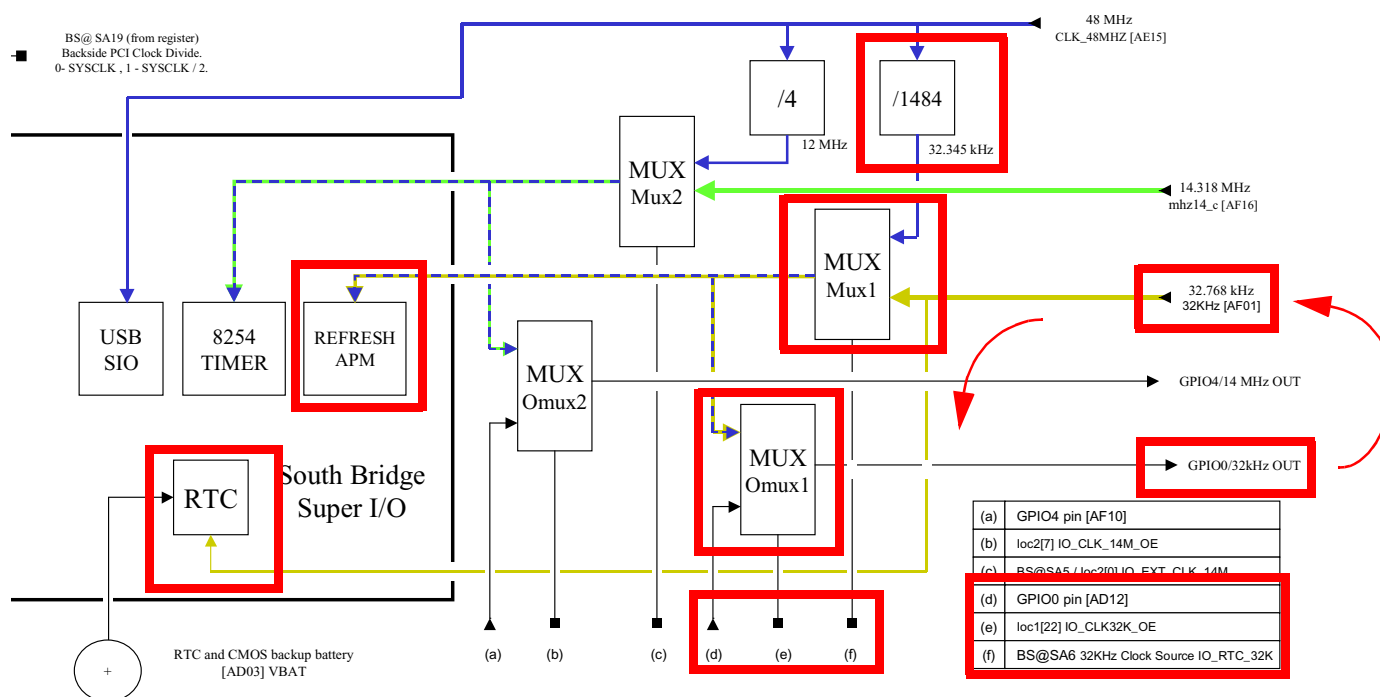

Figure 5-11 32KHZC\_C [AF01] Clocking Control Circuitry
c. Drive the 32KHz Real Time Clock with GPIO[0] output which is USB\_48MHz/1484. See [Figure 5-11 "32KHZC\\_C \[AF01\] Clocking Control Circuitry" on page 444](#).